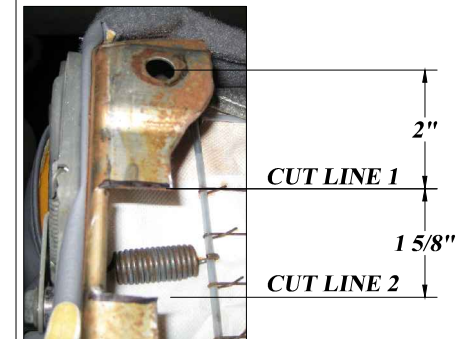

FIG. 2 SEAT FRAME MODIFICATION
2. Place removed seat on it's back and remove (4) 13mm flange nuts (A) holding the factory slides to the seat and remove the slides.
3. Bolt on the BigBoy Brackets (E) using the (4) $\frac{5}{16}$ " x 1" carriage bolts (B) supplied. Use the flatwasher (C) and the nyloc nut (D) to secure the brackets to the factory slides. Make sure the extra 3" of the bracket is toward the front of the seat.
4. Before you can bolt the BigBoy Bracket and factory slide on the left floor bracket you must make two cuts in the left seat bracket and bend the tab up to the vertical side of the seat frame (see FIG. 2). You can now bolt the left BigBoy Bracket with the factory slide to the floor bracket. The right seat frame does not need modified.